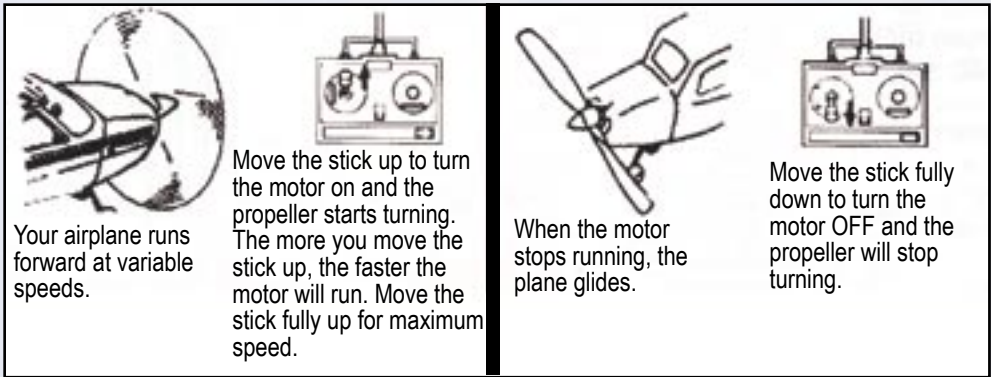

Figure 15 - Throttle Stick Movements
- C. Now it's time to test the motor (this should be done outdoors!). First, make certain that the left stick, the throttle stick, is in the "off" position (all the way down) and both the transmitter and receiver switches are on. Then firmly grasp the center of the Air Strike® fuselage, keeping hands and all obstructions clear of the propeller. Now press the red safety start switch and slowly move the throttle up to full to make certain the propeller and gearbox are operating properly. Move the throttle up and down a few times to get a feel for how it works (See **Figure 15**). Once you are satisfied and familiar with the operation of your Air Strike, turn off the receiver (first) and then the transmitter.